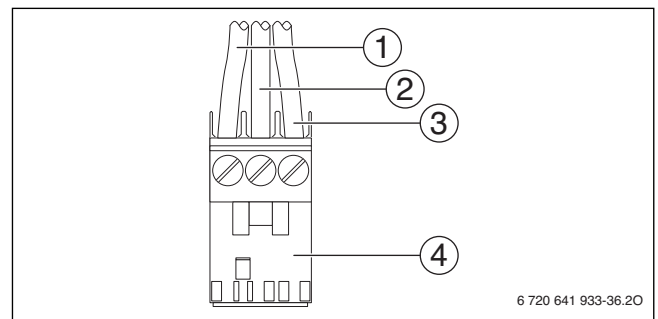

Fig. 58 Attach plug (mains power supply)
- ▶ Connect cable to **the white plug** according to Fig. 58.
- ▶ Connect the lead labeled BOILER GROUND (green) to pin 2 (center, → Fig. 58 [2]) of the white plug in the boiler junction box.